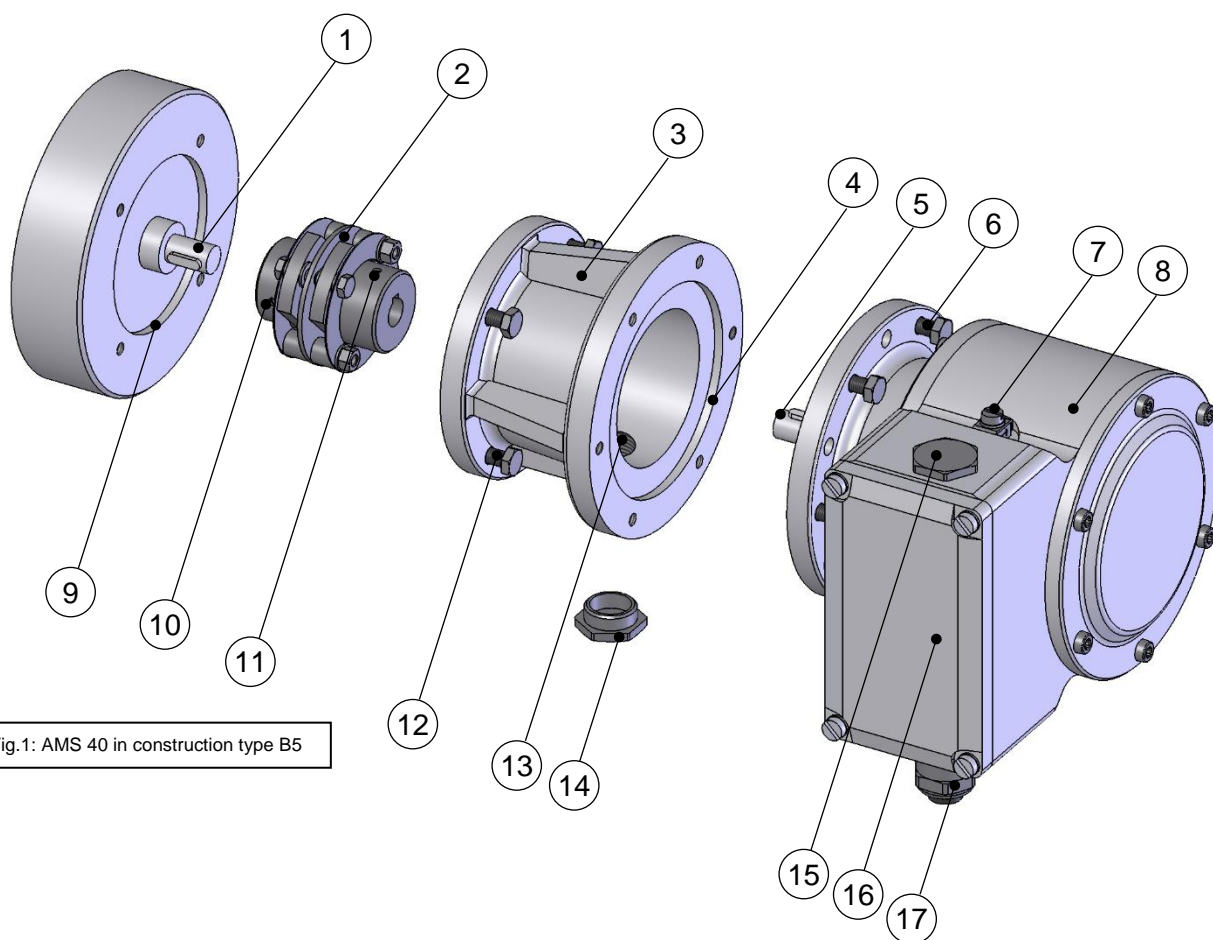

Fig.1: AMS 40 in construction type B5
1. Open the terminal box cover (16 Fig. 1).
2. Remove the cap of the cable gland (17 Fig.1).
9. Secure earth cable to earth terminal (7, Fig.1).